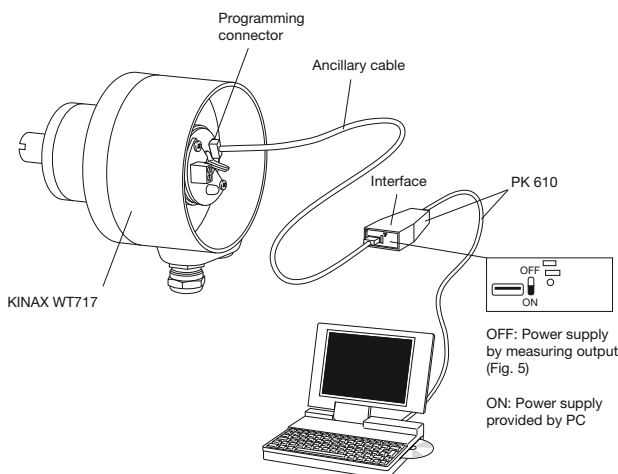
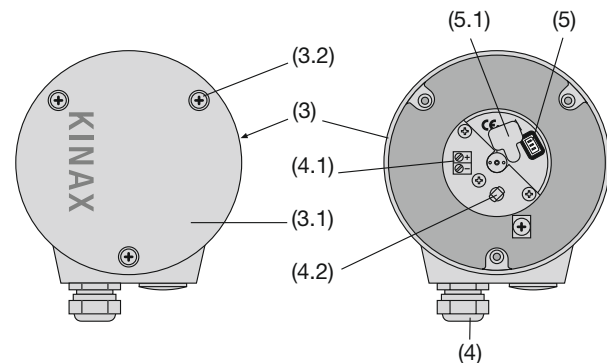

Fig. 3
Fig. 4. Rear (3) with terminals (4.1) and cable glands (4).
1. Remove the cover (3.1 in Fig. 4). Remove the rubber cover (5.1) to gain access the programming connector (5), (see section "8.1 Connecting transmitter"). Connect the KINAX WT 717 to the programming device according to Fig. 3. Start the 2W2 configuration software. If necessary, configure the device with the required measuring range data.
1. Put the transmitter into operation and connect the programming device according to Fig. 3 (AUX switch on the PK 610 on the OFF position).